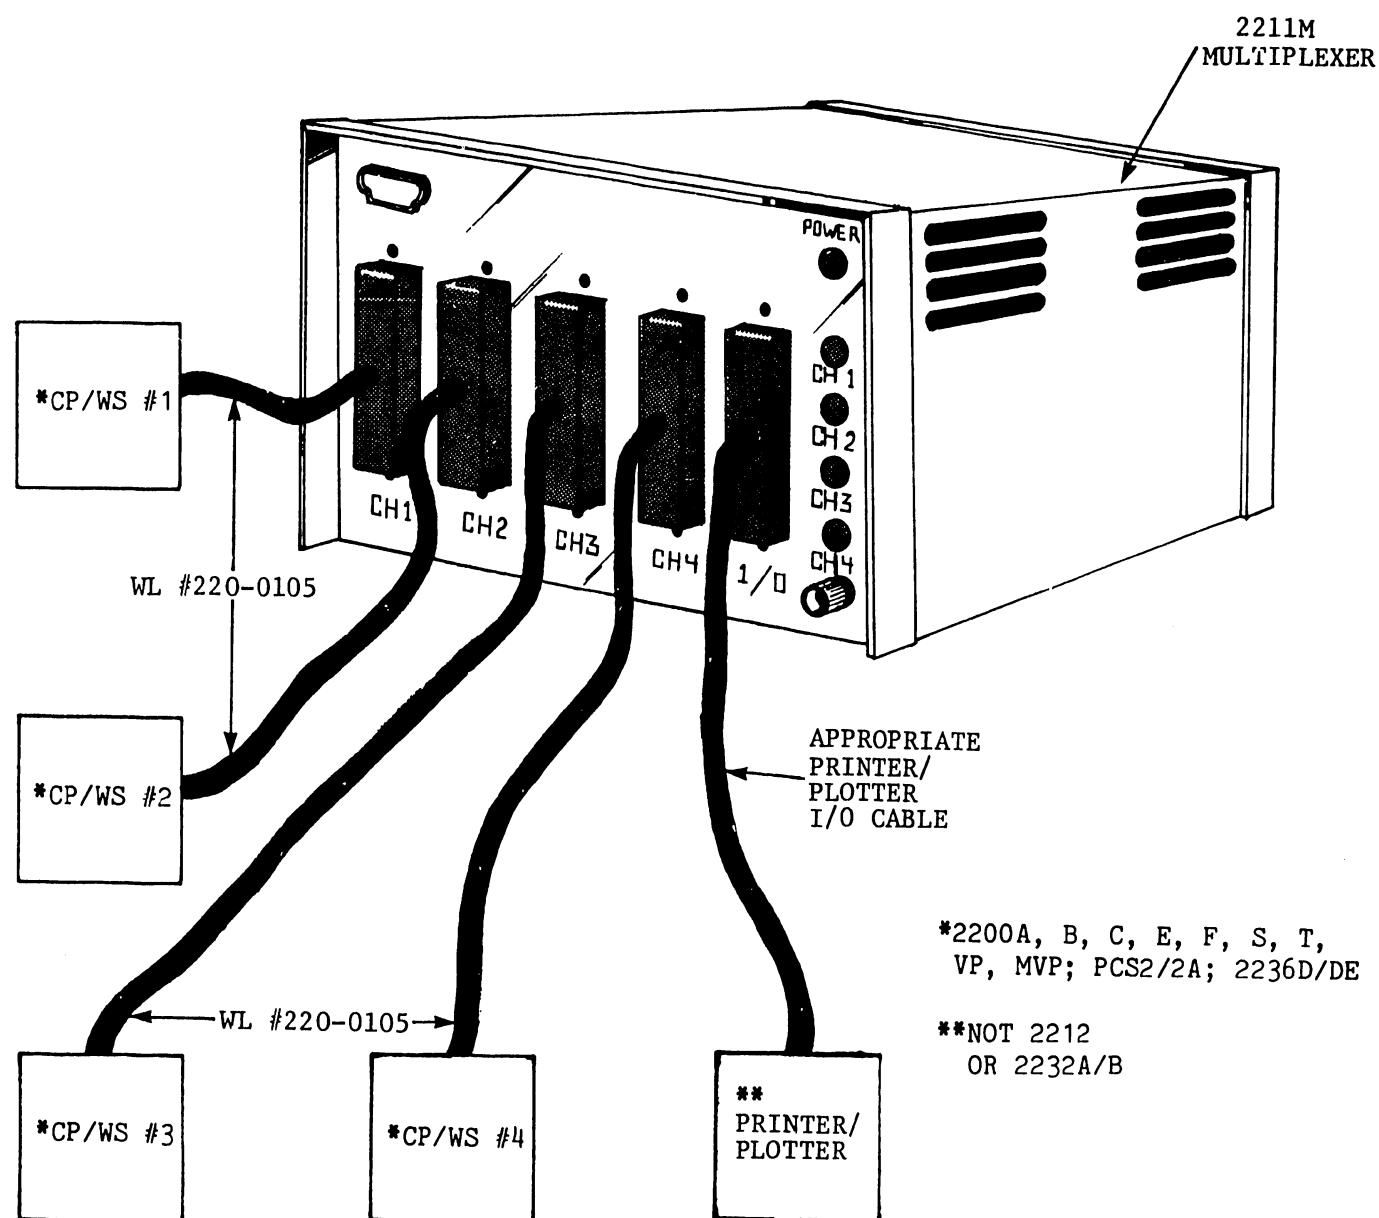

FIGURE 3-5 SYSTEM CONFIGURATION
- F. (Refer to FIGURE 3-1 and FIGURE 3-5.) Plug the I/O cable that is attached to the printer or plotter into the jack labeled "I/O". Using the CP/WS interconnection cables supplied (WL# 220-0105), connect the CP/WS designated #1 to the jack labeled "CH 1"; connect the #2 CP/WS to "CH 2", the #3 to "CH 3", and the #4 to "CH 4".